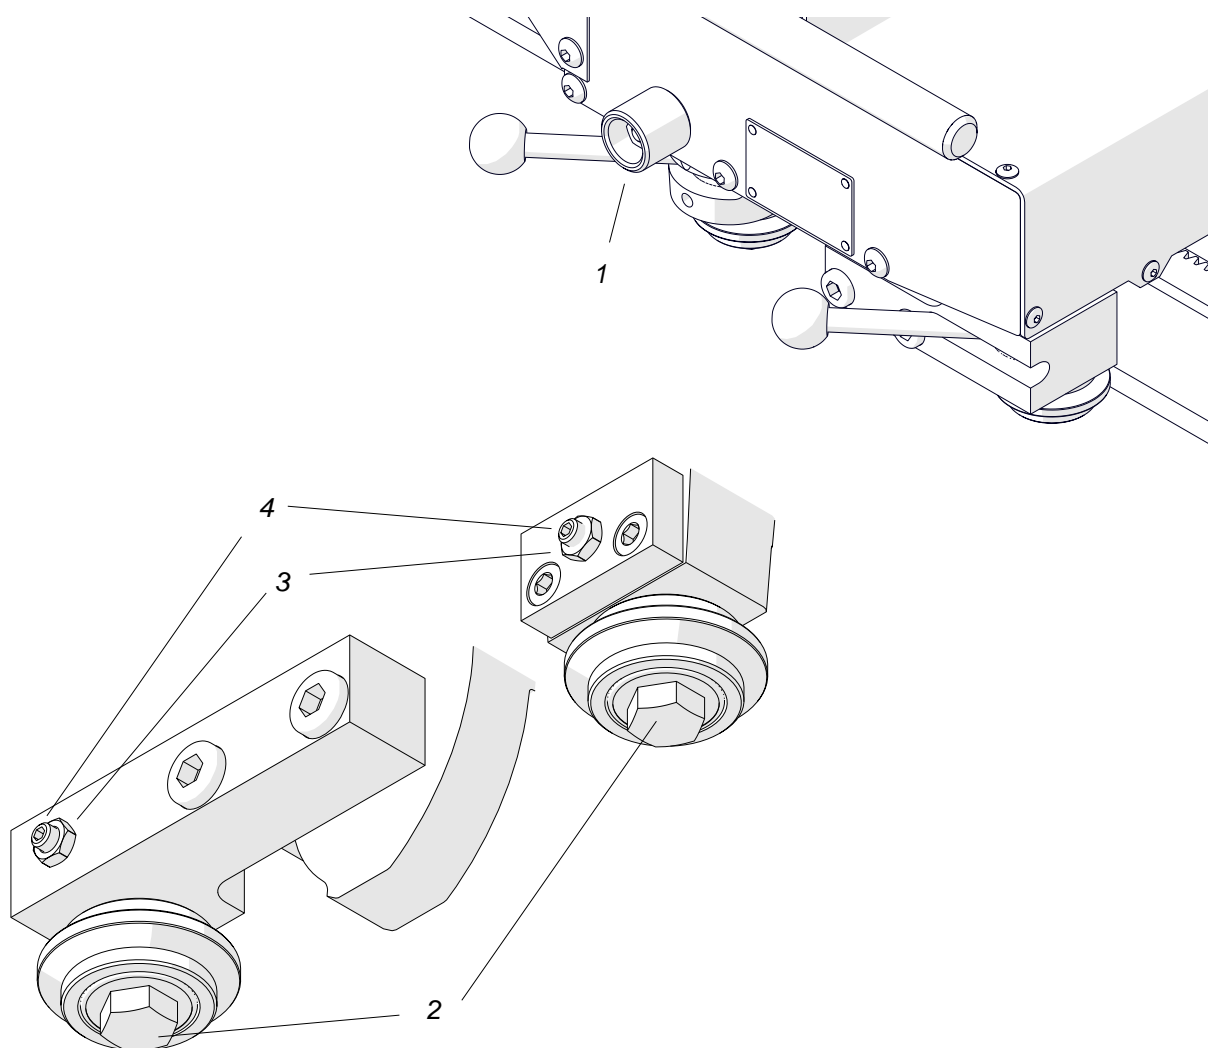

Fig. 11. Adjusting the pressure of rollers
If the resistance during the travel is too little or too much, loosen the knob (1, Fig. 11). At the opposite side of the carriage, use the 13 mm and 8 mm flat wrenches to loosen the bolts (2) and nuts (3). Next, use the 2.5 mm hex wrench to adjust the screws (4), and then tighten the bolts (2).